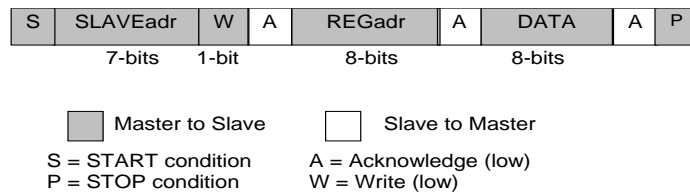
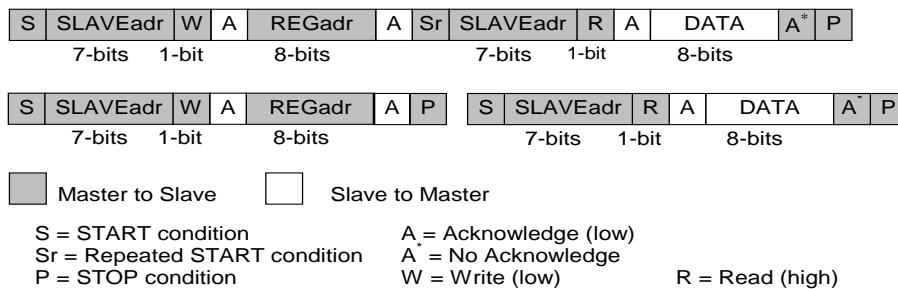

Figure 17: I²C Byte Write (SDA Line)
Figure 18: I²C Byte Read (SDA Line) Examples
The I²C bus is monitored for a valid slave address whenever the interface is enabled. It responds immediately when it receives its own slave address. The acknowledge is done by pulling the SDA line low during the following clock cycle (white blocks marked with A in Figure 17 and Figure 18).
The protocol for a register write from master to slave consists of a START condition, a slave address with read/write bit, and the eight-bit register address followed by eight bits of data, terminated by a STOP condition. DA9132 responds to all bytes with acknowledge (A), see Figure 17.
When the host reads data from a register it first has to write to DA9132 with the target register address and then read from DA9132 with a repeated START, or alternatively a second START, condition. After receiving the data, the host sends no acknowledge (A*) and terminates the transmission with a STOP condition, see Figure 18.